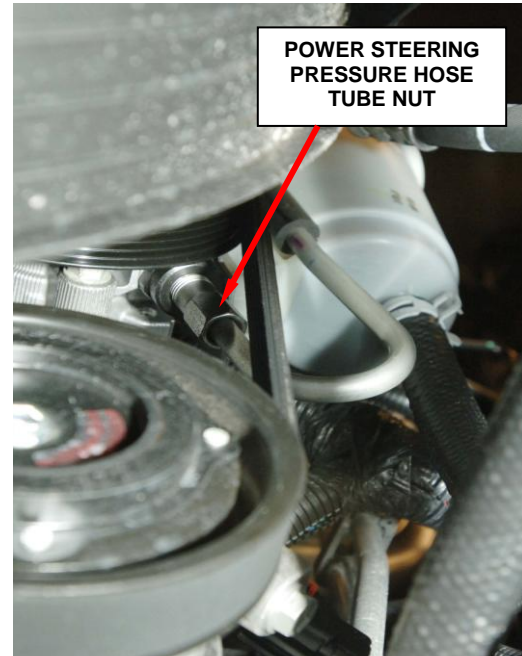

Figure 12 – Viewed from Under Vehicle
6. Disconnect the power steering pressure hose at the power steering pump (Figure 12).